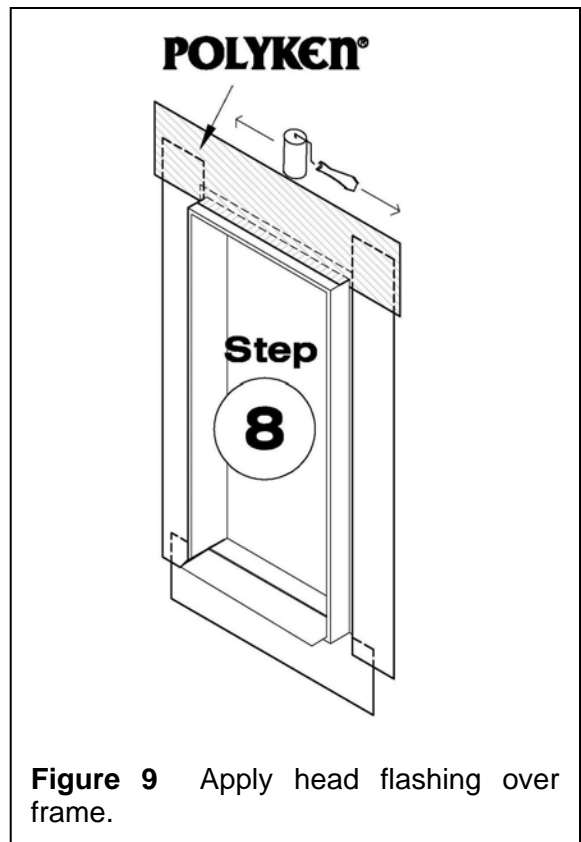

Figure 9 Apply head flashing over frame.
Step 8. Precut Polyken® head flashing tape to extend a minimum of 6” beyond the jambs of the rough opening. Peel off release liner and adhere Polyken® membrane over door fin and optional preformed head flashing (see Figure 9).